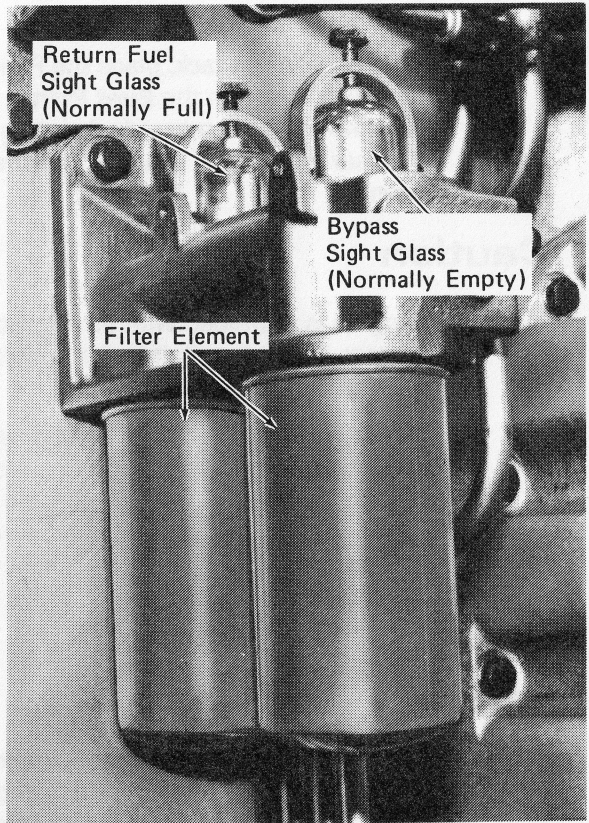

Fig. 3-1 Fuel Oil Sight Glasses
3. At the equipment rack, place the Fuel Prime/Engine Start switch in the **Fuel Prime** position until fuel flows in the return fuel sight glass, Fig. 3-1, clear and free of bubbles (normally 10 to 15 seconds).